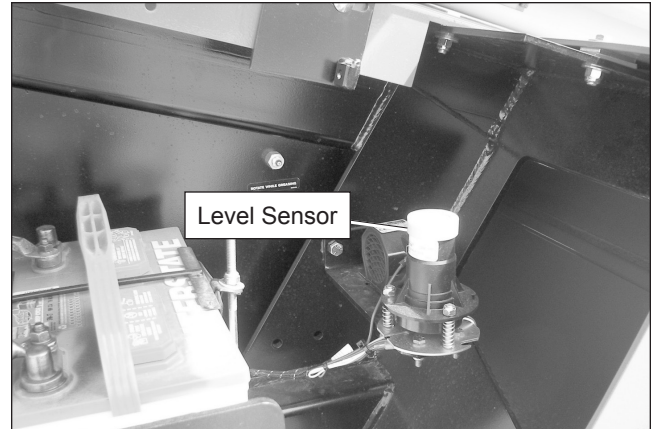

Figure 7.13 – Level Sensor
4. Open the rear door on the left side of the machine to access the level sensor (refer to Figure 7.13).